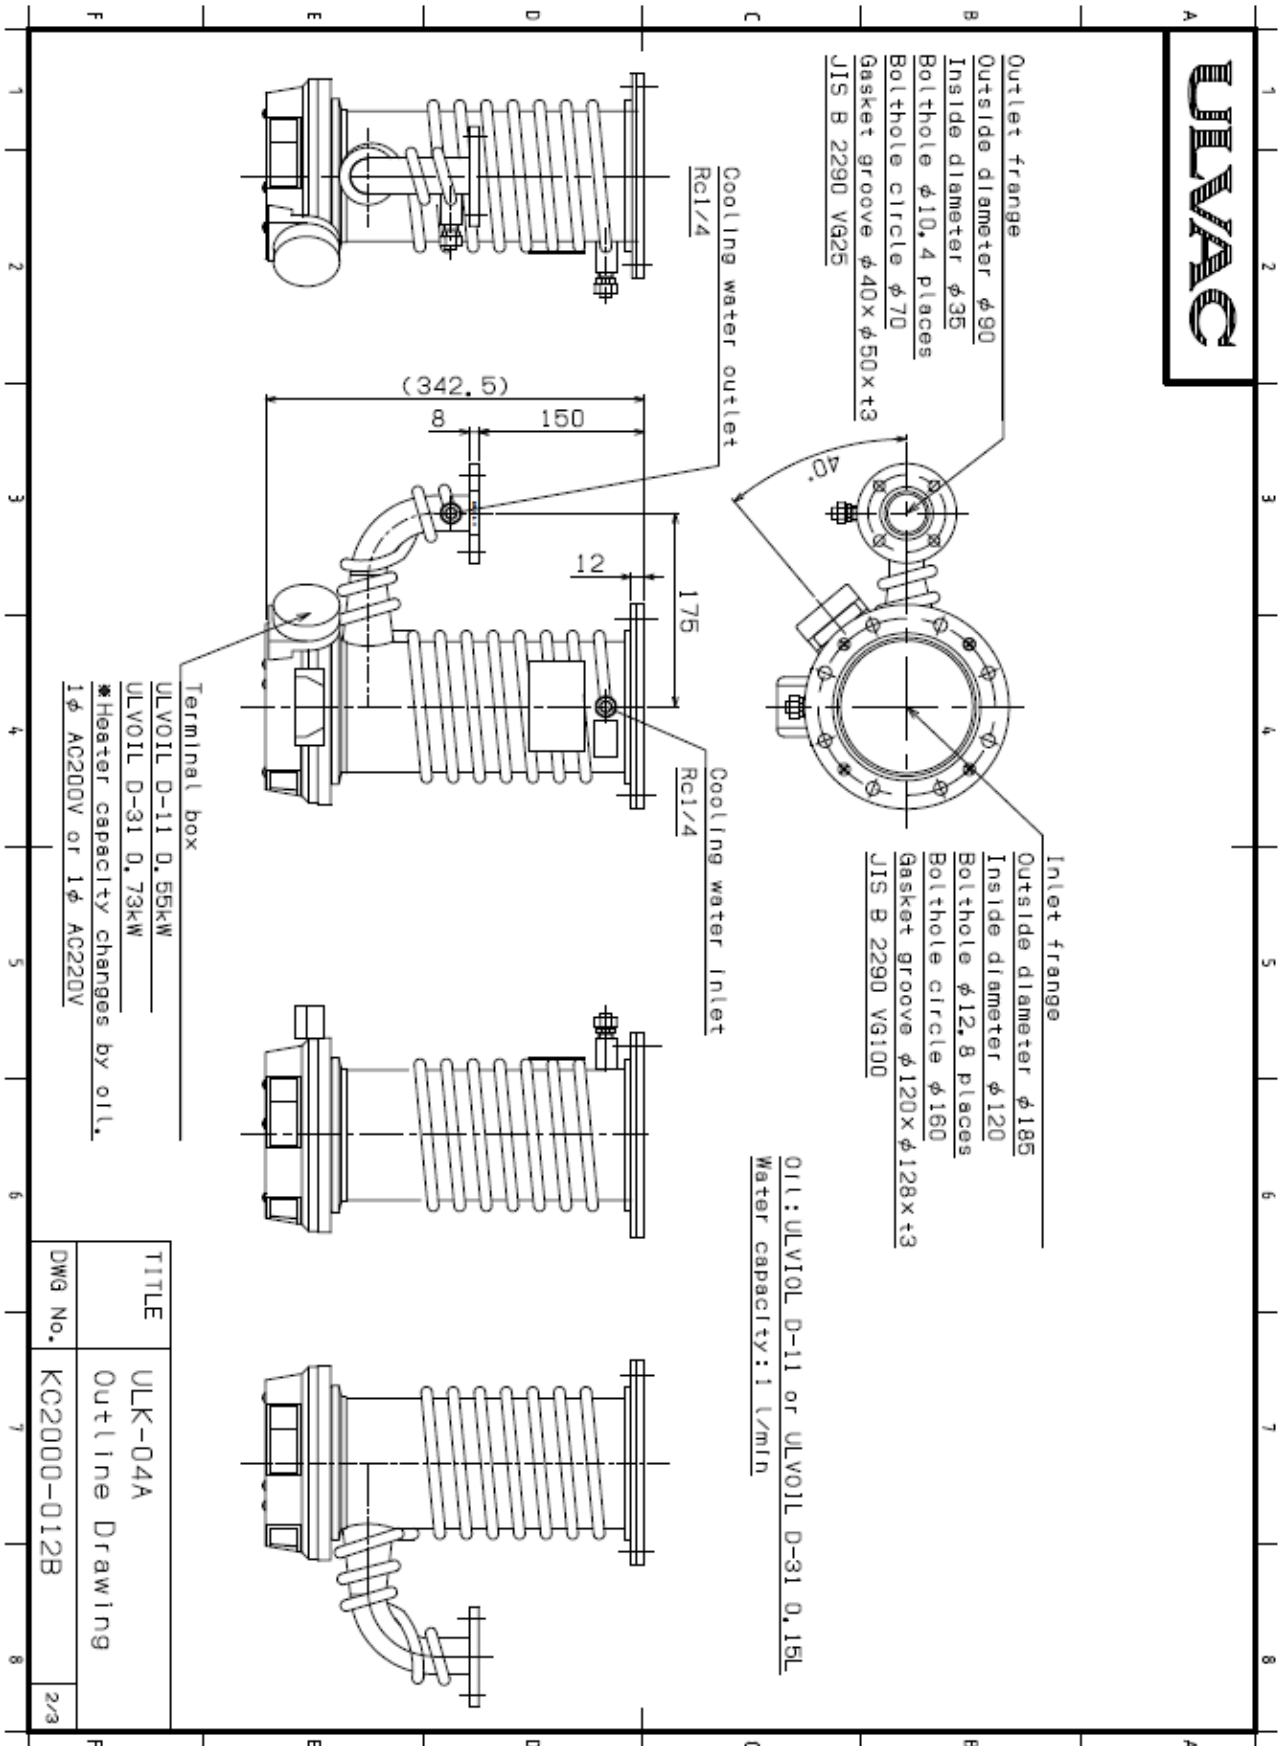

Figure 2: Oil diffusion vacuum pump Model No. ULK-04A, Dimensional appearance drawings
Lay out in consideration of installation, removal, inspection, cleaning, etc. of the pump (See Figs 2 to 5).
**The pump is damaged if operated in a tilted, overturned, or upside-down state. With the intake port facing upward (see Fig. 2, 3), install the pump body horizontally.**